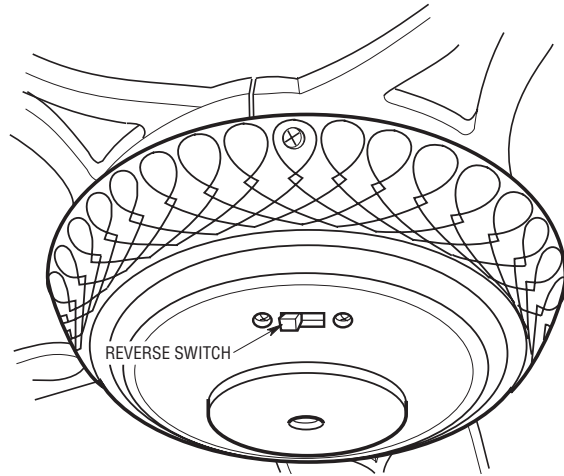

Figure 24
- 5. All fans are shipped from the factory with the reversing switch positioned to circulate air downward. If airflow is desired in opposite direction, turn your fan OFF and wait for the blades to stop turning, then slide the reversing switch to the opposite position, and turn fan on again (Figure 24).